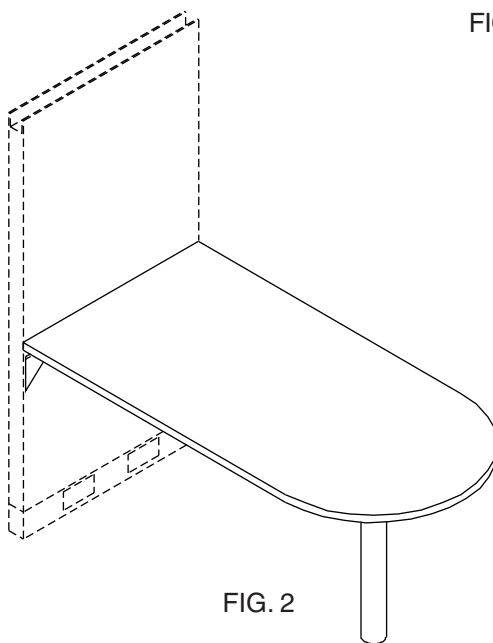

FIG. 2
1. When the square end of a “D” worksurface is to be attached to a panel (Figure 2), you will use the two Worksurface Support Brackets and lock clips that are included with the worksurface. See page 2-1-4 for WSB install instructions.